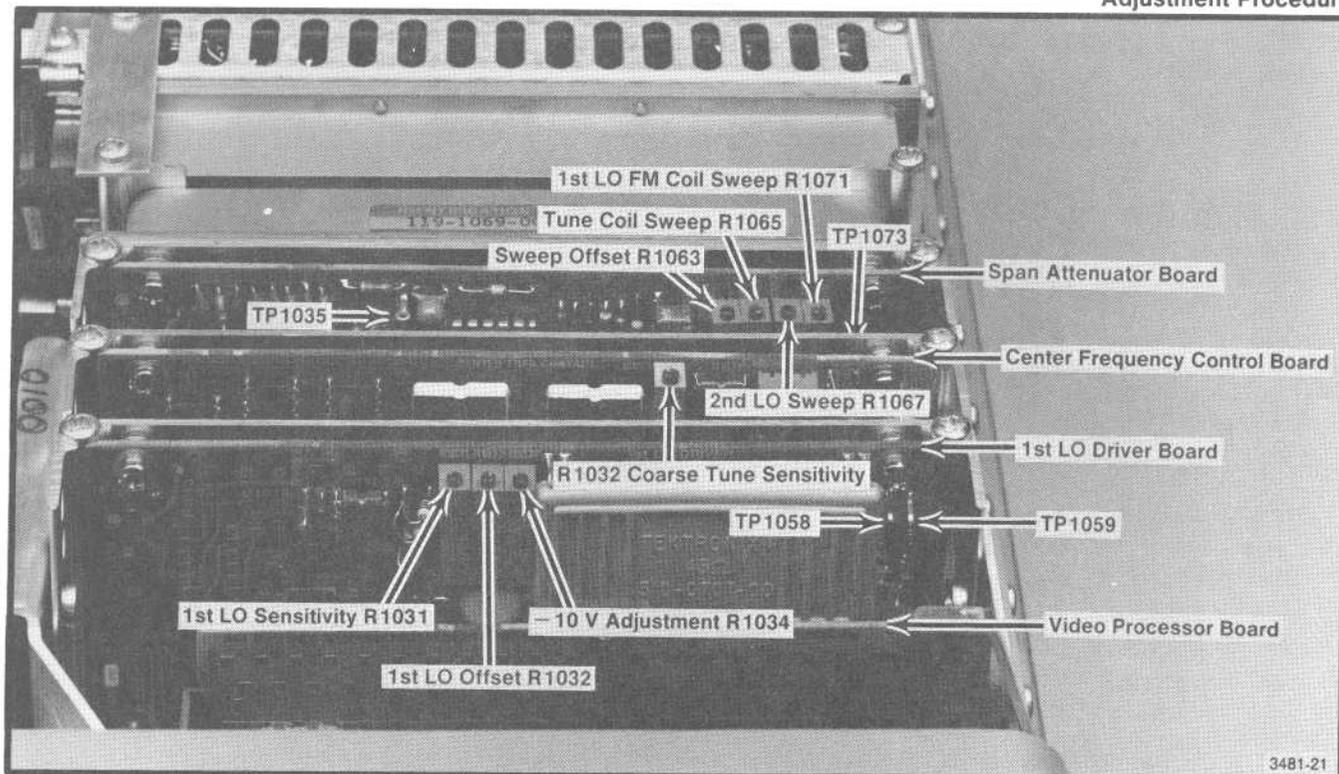

Fig. 3-31. 1st LO balance and span adjustments and test points.
2. Connect the digital voltmeter (DVM) set to the 200 V range between TP1058 of the 1st LO Driver and chassis ground (Fig. 3-31), so the voltage at the test point can be monitored. Adjust FREQUENCY for a readout of -56 MHz as the FREQ SPAN/DIV is reduced to 5 MHz. Note the DVM reading.
5. If the differential between -56 MHz and 1871 MHz is not 20.00 V, adjust Coarse Tune Range R1032, on the Center Frequency Control board (Fig. 3-31) until the voltage difference between the two frequency points is 20.00 V.
1. Connect a shorting strap from TP1035, on the Span Attenuator board, to chassis ground (Fig. 3-31). Monitor the voltage on TP1073 (Fig. 3-31) with the DVM.
4. Adjust the 1st LO Offset R1032 (Fig. 3-31) on the 1st LO Driver board to center the 900 MHz marker.
6. Adjust 1st LO Sensitivity R1031 (Fig. 3-31) on the 1st LO Driver board to center the 100 MHz marker.
2. Adjust Tune Coil Swp R1065 (Fig. 3-31) on the Span Attenuator board so the 100 MHz harmonics of the Calibrator are spaced at one division intervals over the center eight divisions of the graticule. Adjust the FREQUENCY as necessary to align the markers.
5. Adjust the 1st LO FM Coil Swp R1071 (Fig. 3-31) for 1 marker/division over the center eight divisions of the display.
7. Adjust the 2nd LO Swp R1067 (Fig. 3-31) on the Span Attenuator board for 1 marker/division. Adjust FREQUENCY control as necessary to align markers.